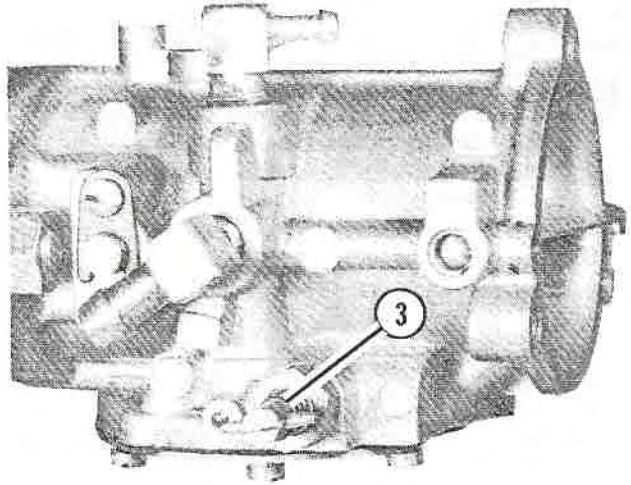

Fig. 8
2. Set the high speed adjusting needle at $1 \frac{1}{8}$ turn open (Figure 8).